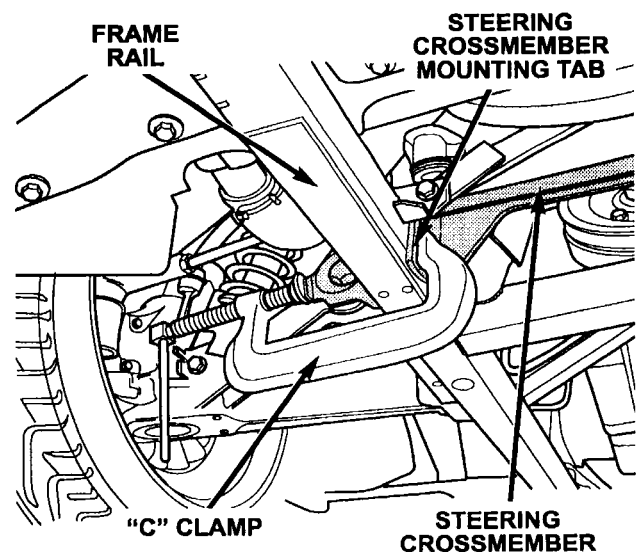

Figure 7 – Right Side Shown
14. Using "C" clamps, clamp the right and left side steering crossmember front tabs to the frame rails (Figure 7).